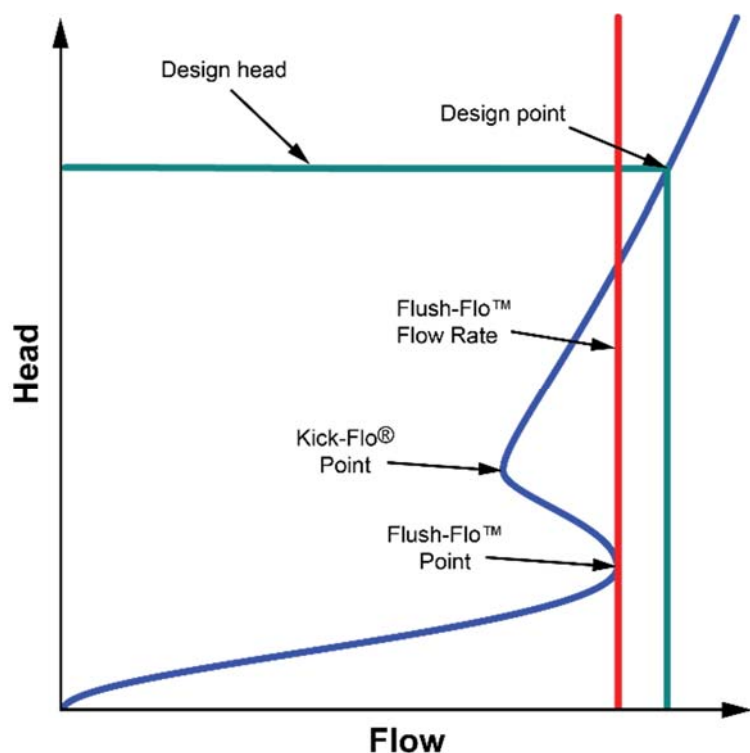

Figure 1 - Hydro-Brake® Flow Control Hydraulic Characteristics
**1) Flush Flo™** – the point at which the vortex begins to initiate and have a throttling effect. A red line on the characteristic curve highlights the flow rate at the Flush-Flo™ point (see Figure 1). This point on the Hydro-Brake® curve is usually much nearer to the maximum design flow (Design Point), than other vortex flow controls leading to more water passing through the unit during the earlier stages of a storm, thus reducing the amount of water that needs to be stored upstream.